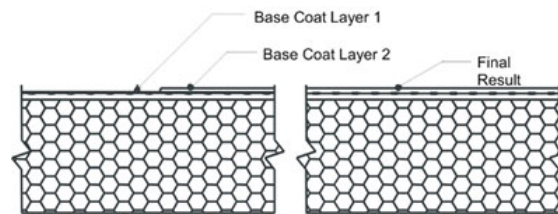

Fig. 25
- a. The base coat shall be applied such that the resulting overall minimum base coat thickness is sufficient to **fully embed** the reinforcing mesh. The recommended method is to apply the base coat in two (2) passes.
- 3) Allow the base coat mixture to take up until firm to the touch. Trowel a second tight coat of the base coat mixture over the first coat to fully cover the reinforcing mesh - Figure 25. The result should be such that the reinforcing mesh is approximately centered within the base coat thickness. Do not allow the first pass to completely dry prior to the second pass application or an excessive amount of base coat mixture will be necessary to fully coat the wall surface.